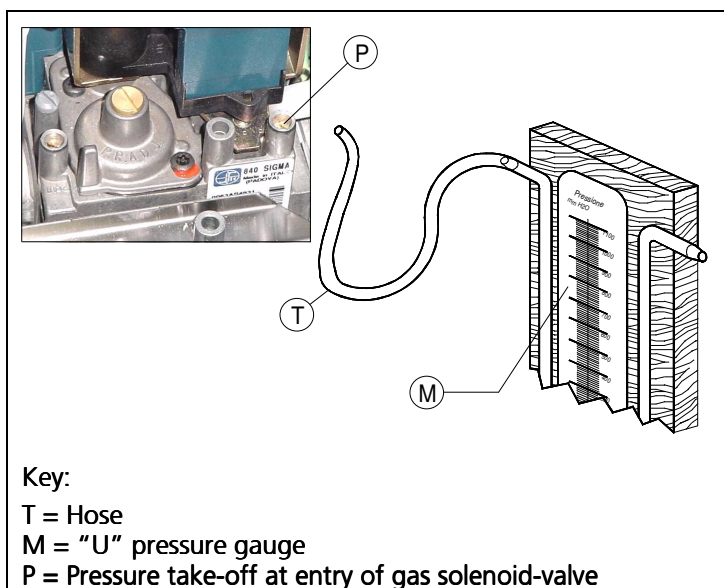

Fig. 5
3.2 Check of connection pressure (Fig. 5)